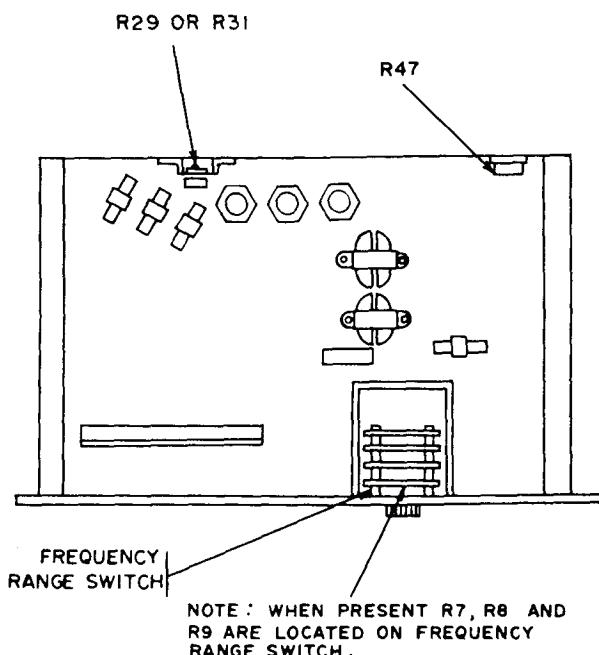
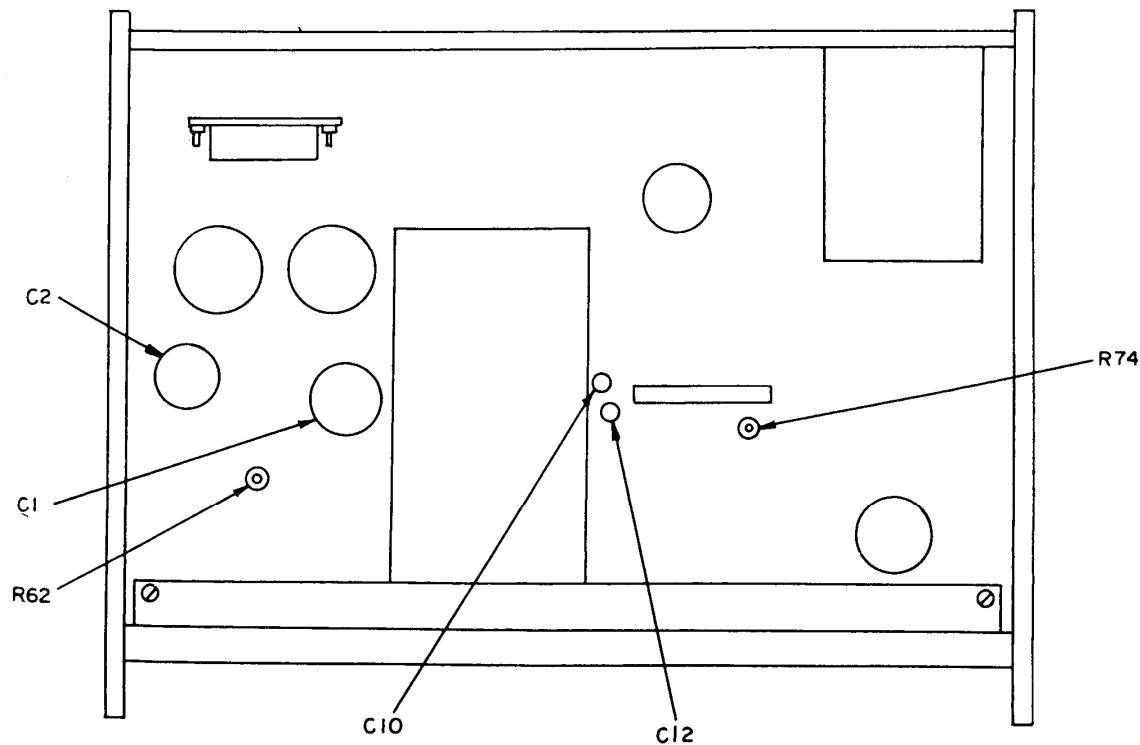

Figure 2. Test instrument - bottom view.
Figure 3. Test instrument - (TS-421C/U and model F370A).
- (6) Adjust R8 (fig. 2) for a 200 Hz indication on frequency counter (R).
(7) Turn **FREQUENCY** dial to **200** and adjust either C1 or C2 (C10 and C12 on TS-421C/U and model F370A) as applicable for a 2000 Hz indication on frequency counter. If provided, adjust both C1 and C22 (C10 and C12 for TS-421C/U and model F370A) for best compromise between frequency counter indication of 2000 Hz and multimeter indication of 50 V (R).
- (8) Repeat **a** (1) through (7) above.
- (9) Set **FREQUENCY RANGE** switch to **X100** and turn **FREQUENCY** dial to **20**.
- (10) Adjust R7 (fig. 2) for a 2000 Hz indication on frequency counter (R).
- (11) Set **FREQUENCY RANGE** switch to **X1** and turn **FREQUENCY** dial to **100**.
- (12) Adjust R9 (fig. 2) for a 100 Hz indication on frequency counter (R).
- (1) Adjust **AMPLITUDE (OUTPUT)** control for a 54.86 V indication on multimeter.
- (2) Adjust R29 (fig. 2) (R31 on some models) (R74 on TS-421C/U and model F370A, fig. 3) for a +37-dB indication on **OUTPUT LEVEL** meter.